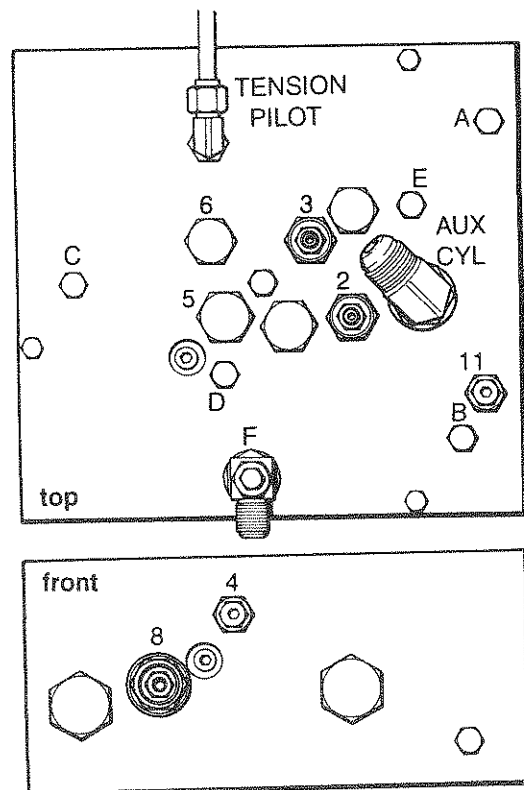

Fig. 50
2. Remove the 1/4 inch JIC cap on the main valve retract pressure port (fig. 50 retract pressure gauge port is labeled with a stamped "B"). Connect a 5,000 p.s.i. hand-held gauge to the retract pressure gauge port.